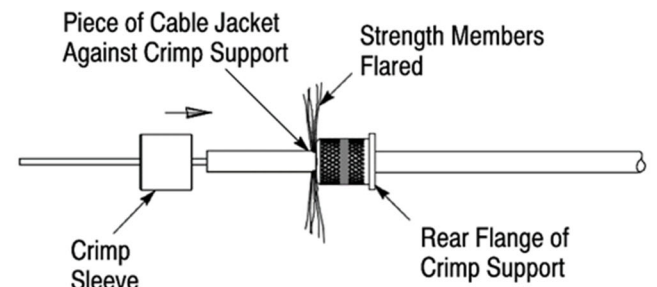

Figure 4
1. Apply a continuous bead of the Loctite 480 instant adhesive around the cable jacket between 4 and 5 mm from the stripped end of the jacket. See Figure 4, Detail A.
2. Rotate and slide the crimp support (large diameter end first) over the fibers and strength members and onto the jacket until it bottoms. See Figure 4, Detail B.
3. Apply a thin band of the instant adhesive around the knurled portion of the crimp support. Make sure that the band is continuous around the entire circumference. See Figure 4, Detail C.
4. Slide the piece of cable jacket (stripped from the cable in Section 5.1, Step 2) over the buffered fiber and into the center of the strength members until it bottoms against the crimp support and the strength members are flared away from the fiber. See Figure 4, Details D and E.
5. Slide the crimp sleeve over the fiber and the piece of cable jacket so that the strength members fold back evenly around and over the crimp support until it bottoms on the rear flange of the crimp support. This step should be performed quickly before the adhesive begins to harden. See Figure 4, Detail E.